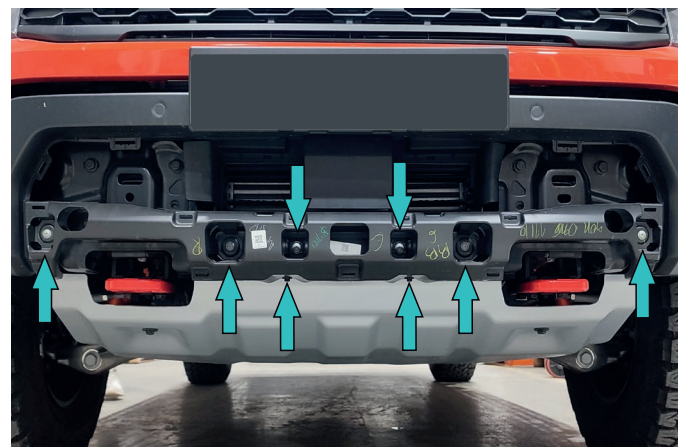

Fig.6
6. Unscrew all bolts of front bumper (fig.6).